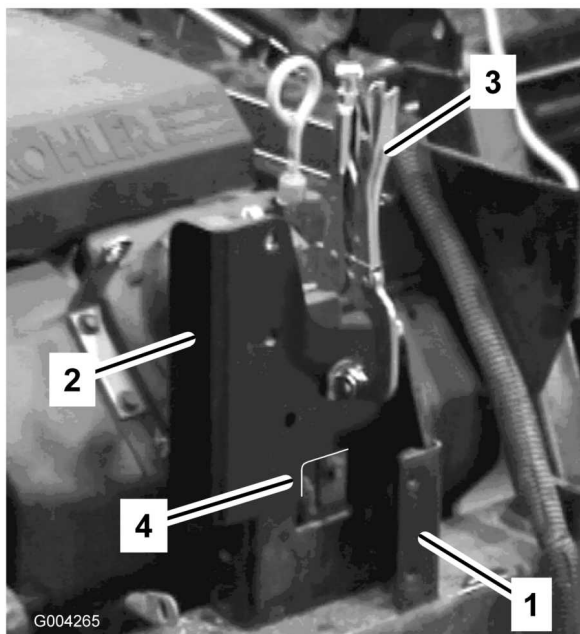

Figure 11
7. Locate the new selector bracket and line up the base of the bracket with the rounded square cut out in the frame bracket. Use a clamp(s) to temporarily hold the new bracket in place (Figure 11).